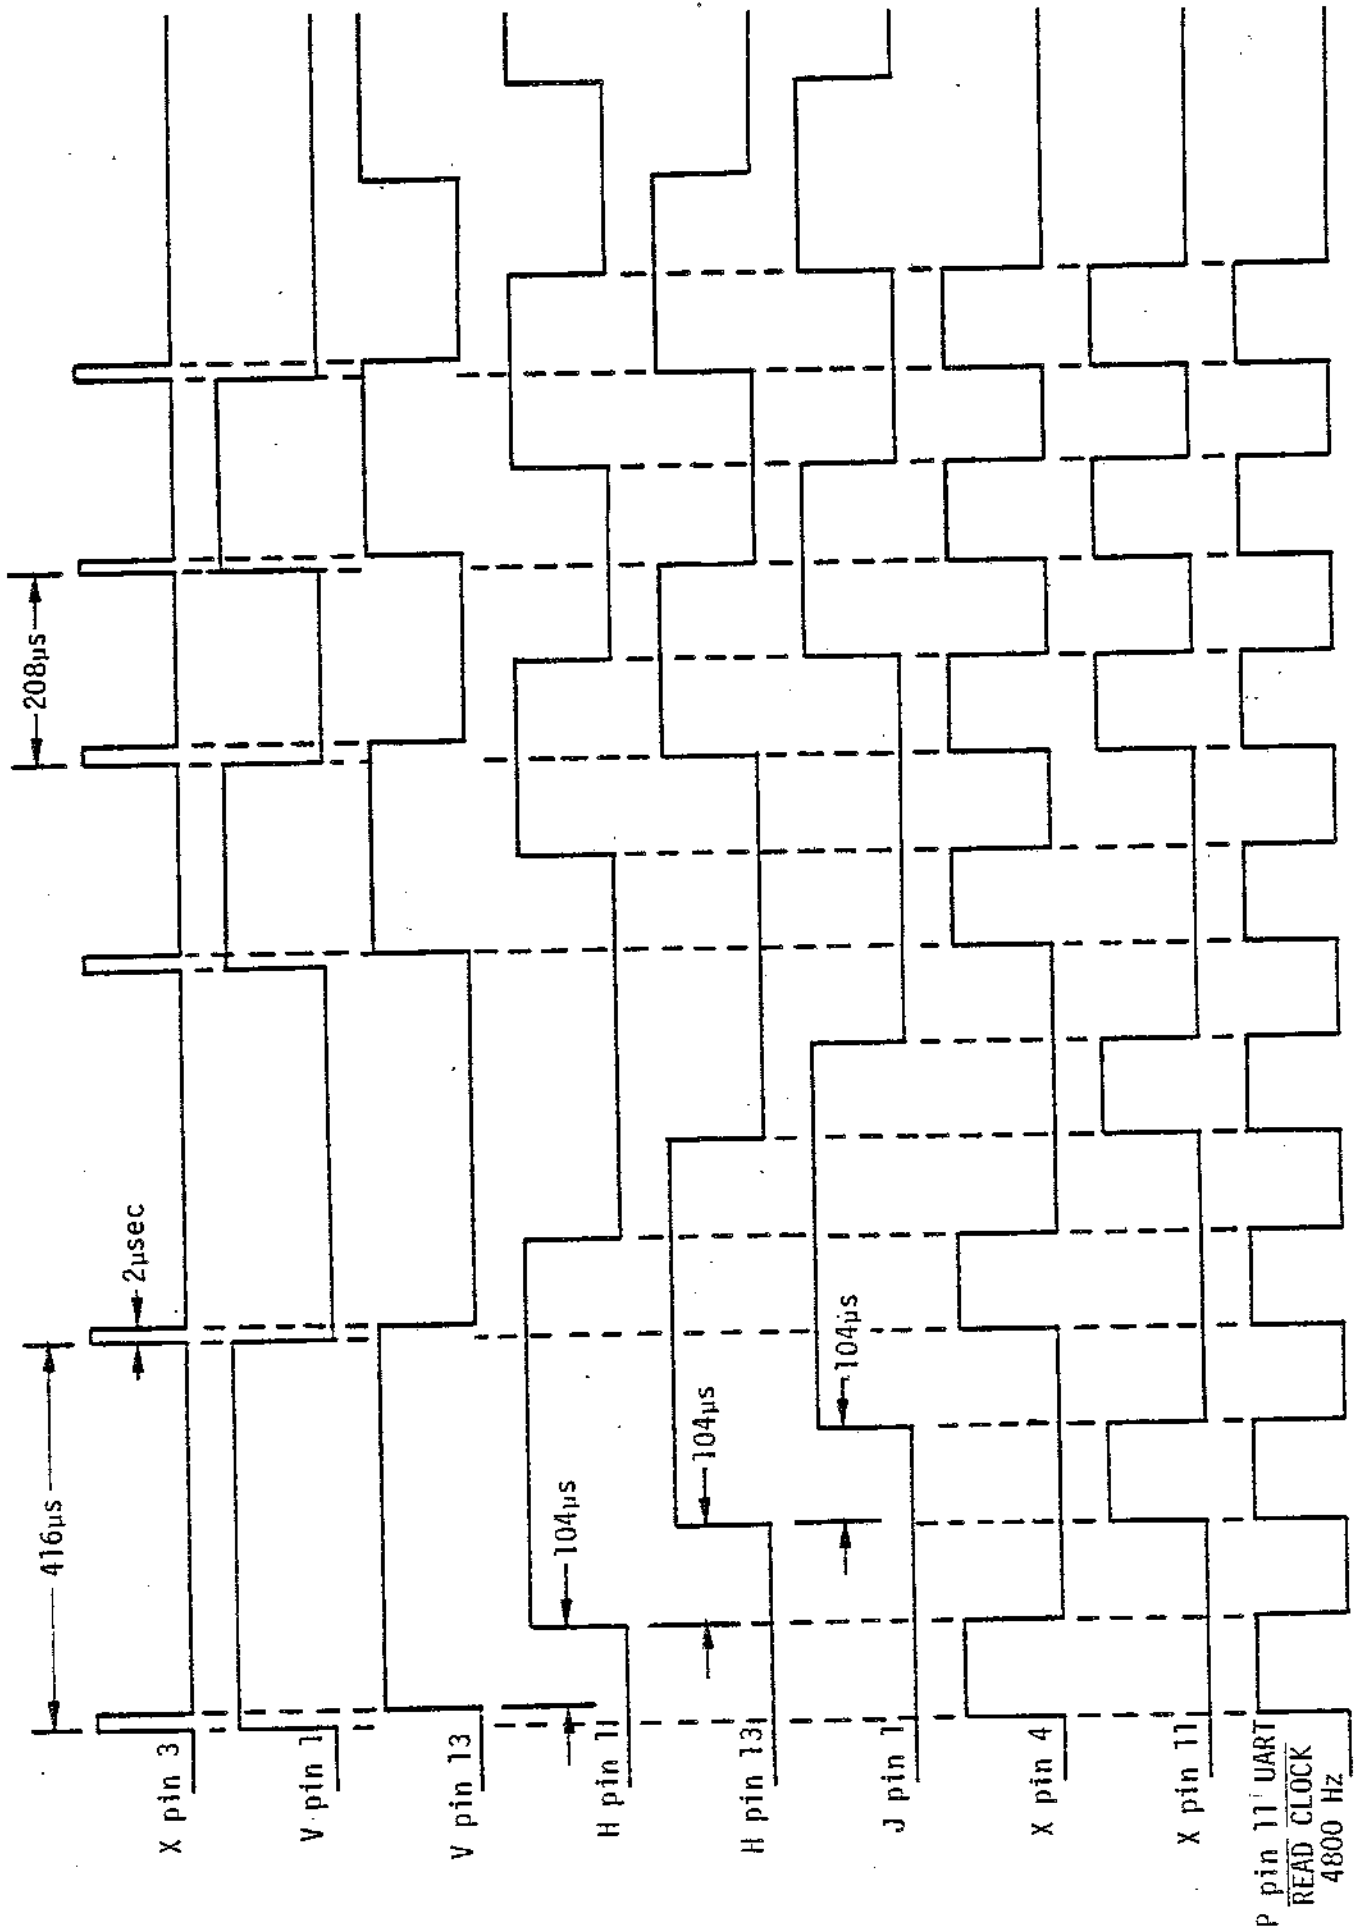

Figure 3-7. Read Circuit Timing
The output pulse at X pin 3 is 2 μ s. wide with a period of 416 μ s. when a 1200Hz (logic 0) square wave is present at the data (D) input (V pin 5). When a 2400Hz (logic 1) square wave is present at V pin 5, the pulse period at X pin 3 is 208 μ s. (refer to Figure 3-7 for timing diagram). There is a 2 μ s. pulse at the Edge Detector, X pin 3, for every half cycle of data.
Referring to the timing diagram in Figure 3-7, the 38.4KHz signal is used to generate the 9.6KHz clock for the Read Clock Generator. The 38.4KHz signal is divided by 2 at the \bar{Q} output, B pin 2. B pin 2 clocks B pin 11 (zone B6) and the signal is divided again by 2 (a total of two divisions), appearing at the \bar{Q} output, B pin 12, as 9.6KHz. The 9.6KHz